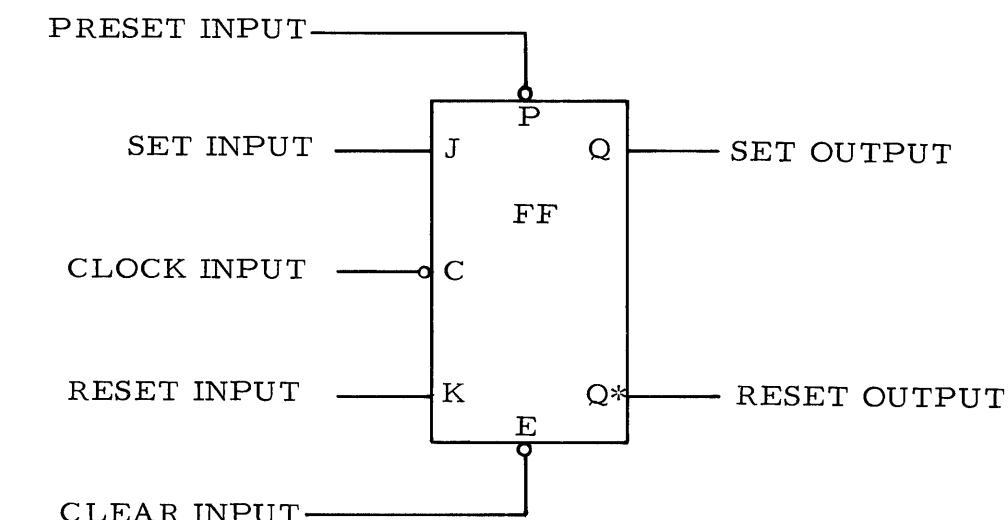

Figure 7-2. J-K Flip-Flop
b. The symbol for a J-K flip-flop is shown in figure 7-2 below: